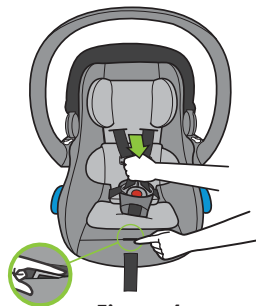

Figure 4
- While pressing down on Harness Adjuster Tab, pull out on Shoulder Harness Straps to loosen Harness, as shown in **Figure 4**. The Harness Adjuster Tab is accessible through the slot sewn into the fabric between the Harness Adjuster Strap and the Crotch Strap.